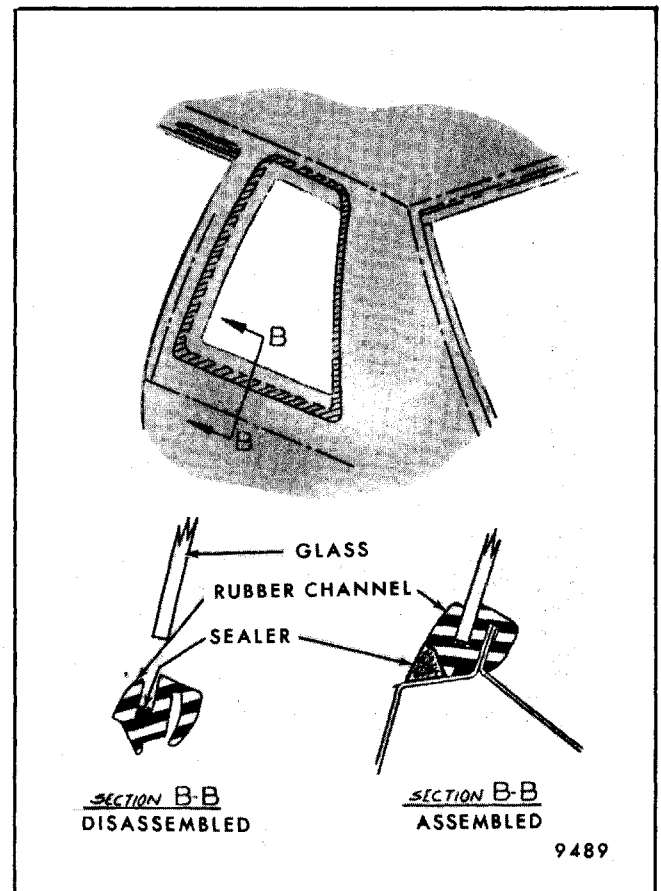

Fig. 11-15 - Outside Loaded Rubber Channel Sealing - C Styles with Vinyl Top Typical
1. Scrape major portion of old sealer from rubber channel and window opening and install rubber channel to glass. Install applicable moldings in rubber channel (Fig. 11-15).